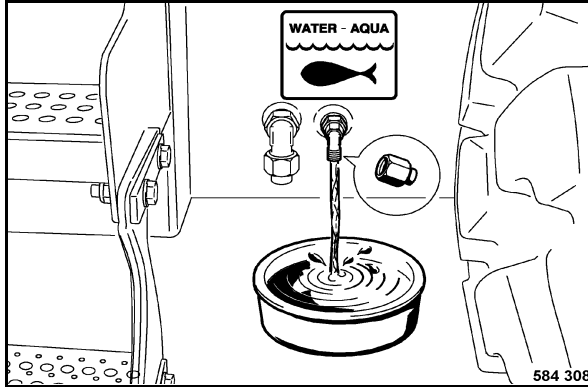

Fig. 177
- Unscrew the plug, let the coolant run out and catch it (Fig. 177).